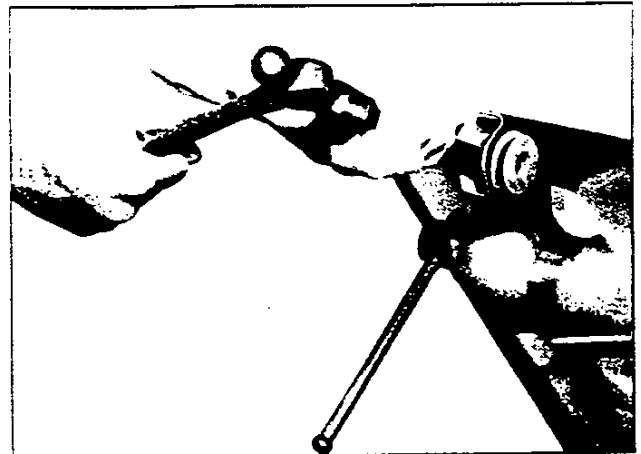

Fig. 26—Removing Bushings
3. Remove bushings by spreading them apart with a chisel and tap out of arm (fig. 26).